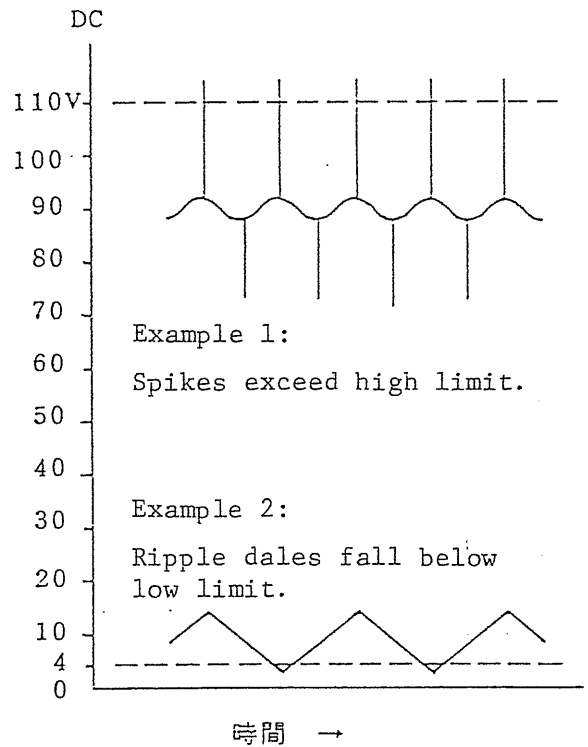
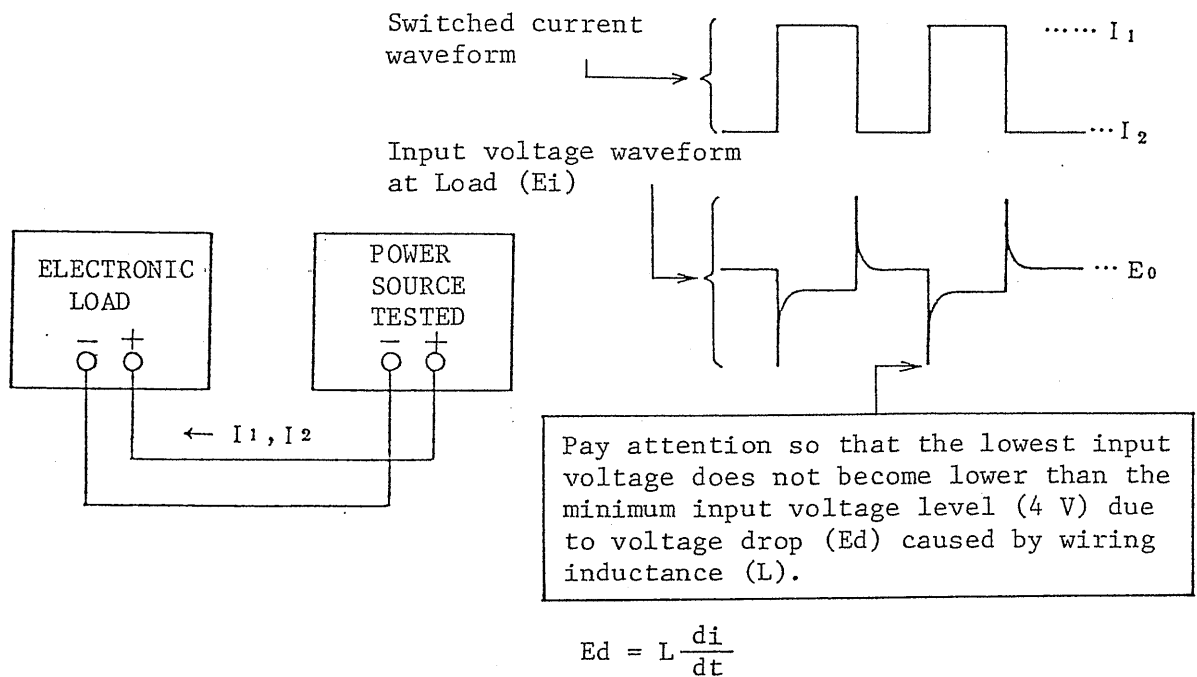

Figure 2-1-2
Figure 2-1-3
- o Note that the overvoltage protector or overpower protector may not respond to such very short duration of overvoltage or overpower as may be caused by pulses or ripples superposed on the input voltage. (See Figure 2-1-2.)
(3) Electrical Connections to Load
- o For electrical connections to the Load, use sufficiently large wires of as short as possible and strand the "+" and "-" wires. Note that, when the Load is operated in the switching mode, if the current sharply varies, voltage drop may be caused by the inductance of the connecting wires and the input voltage at the Load may become lower than the low limit of the operable input range and the loading current waveform may be distorted. (See Figure 2-1-3.)